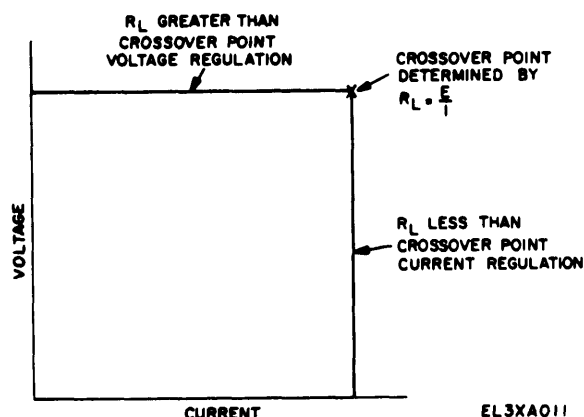

Figure 4-1. Power Supply PP-3940A/G, crossover characteristics.
a. The power supply is a variable-output, voltage regulated, current-regulated dc supply. The characteristic of this type of regulated power supply exhibits a crossover point at which the supply switches from voltage regulation, indicated by the front panel VOLT MODE indicator being lit, to current regulation, indicated by the front panel CUR MODE indicator being lit. Figure 4-1 indicates this crossover point as a function of the preset value of the front panel VOLT ADJ and CUR ADJ controls. For *example*, setting the front panel controls for 20 volts dc and 2 amperes and Using Ohm's Law